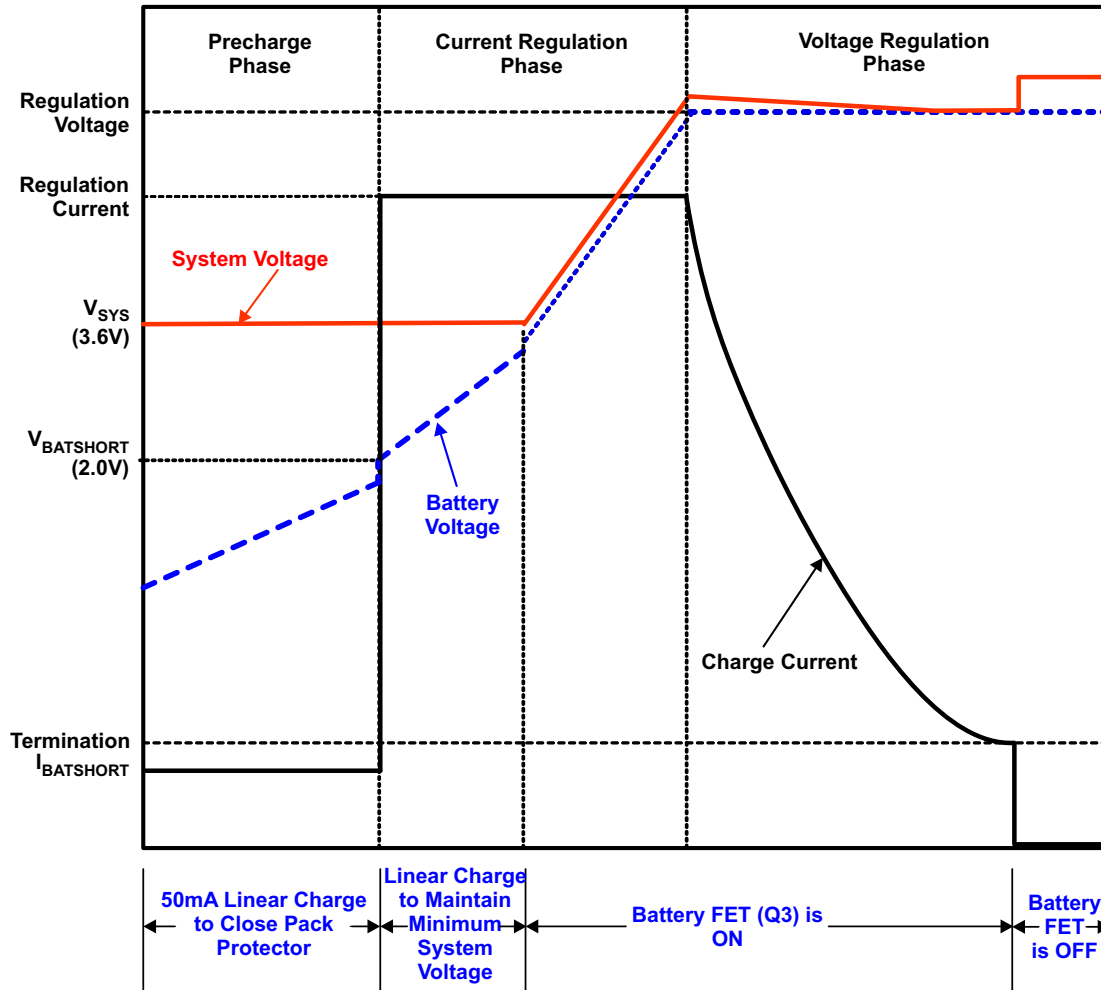

Figure 10. Typical Charging Profile of bq24260/1/1M/2 With Termination Enabled
The bq24260/1/1M/2 supports a precision Li-Ion or Li-Polymer charging system for single-cell applications. Charging is done through the internal battery MOSFET. There are 6 loops that influence the charge current; constant current loop (CC), constant voltage loop (CV), thermal regulation loop, minimum system voltage loop (MINSYS), input current limit and  $V_{IN-DPM}$ . During the charging process, all six loops are enabled and the one that is dominant takes control. The minimum system output feature regulates the system voltage to  $V_{SYSREG(LO)}$ , so that startup is enabled even for a missing or deeply discharged battery. Figure 10 shows a typical charge profile including the minimum system output voltage feature.
Once the battery is charged enough that the system voltage rises above  $V_{SYSREG(LO)}$  (approximately 3.5 V), the battery FET is turned on fully and the battery is charged with the full programmed charge current set by the I2C interface,  $I_{CHARGE}$ . The charge current is regulated to  $I_{CHARGE}$  until the voltage between BAT and PGND reaches the regulation voltage. The voltage between BAT and PGND is regulated to  $V_{BATREG}$  (CV mode) while the charge current naturally tapers down as shown in Figure 10. During CV mode, the SYS output remains connected to the battery. The impedance of the battery FET is increased to 4x of the fully on value when IBAT falls below approximately 350 mA to provide increased accuracy during termination. This will show a small rise in the SYS voltage when the  $R_{DS(ON)}$  increases below approximately 350 mA.